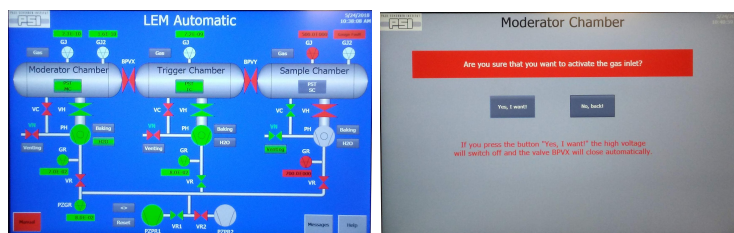

Figure 4.6: Main screen (left) and moderator chamber (right) of the vacuum control touch screen.
4. Using the "LEM Automatic" vacuum control touch screen, press on the "Gas" button (near "Moderator Chamber", Fig. 4.6), then confirm by pressing "Yes, I want" to activate the HV interlock for the MC.